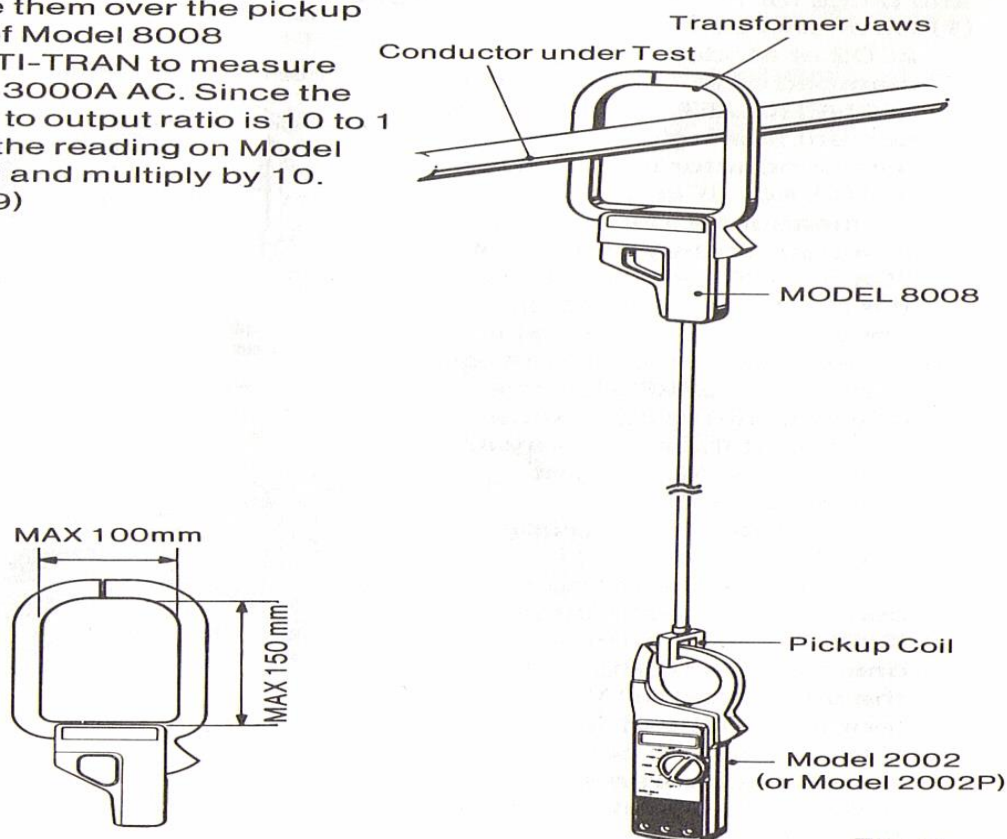

Fig. 9
- (1) As shown below, open the transformer jaws of Model 2002 or Model 2002P and close them over the pickup coil of Model 8008 MULTI-TRAN to measure up to 3000A AC. Since the input to output ratio is 10 to 1 take the reading on Model 2002 and multiply by 10. (Fig. 9)